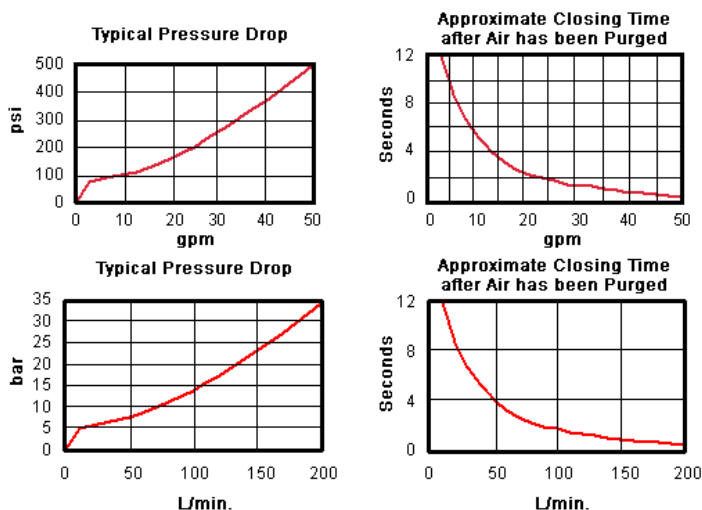

Figure 2.
- After air has been purged, closing times vary from approximately 12 seconds at 4 gpm (15 L/min) to 0.5 seconds at 50 gpm (200 L/min). (See Figure 2.)